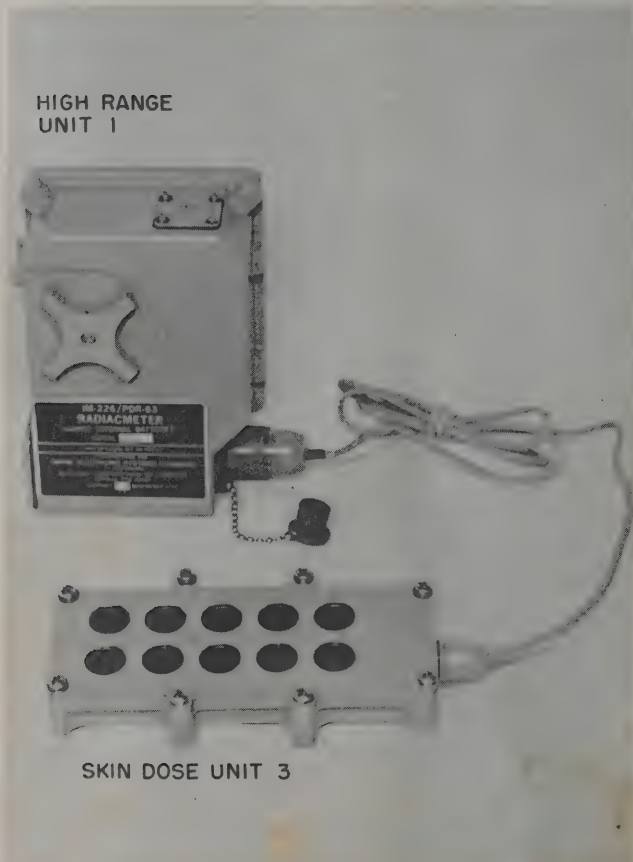

Figure 3-3. Skin Dose Accessory, DT-508/PDR-63
e. If beta measurements are to be taken using the skin dose accessory, Figure 3-3, similar caution should be exercised not to puncture the thin window area of the probe.